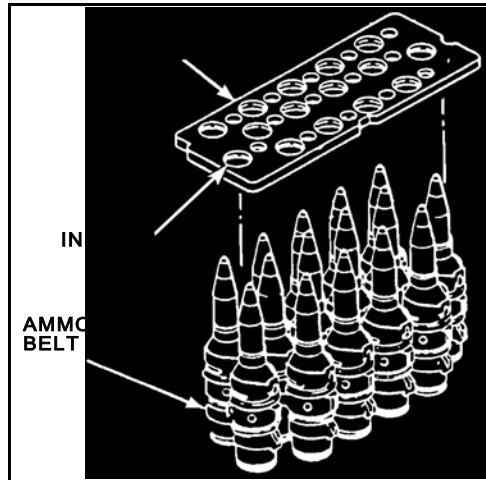

Figure 1. Free end of belt.
- b. Pull out and pass free end of ammunition belt to helper (Figure 1).